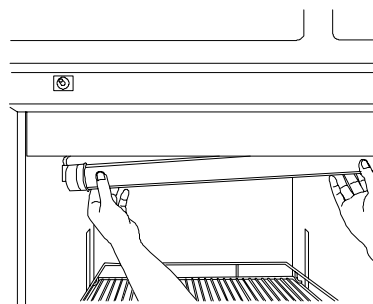

Fig. 1
2. Hold the cover of the light and pull downward with lead wire to remove the lamp from stopper. (Fig. 1)